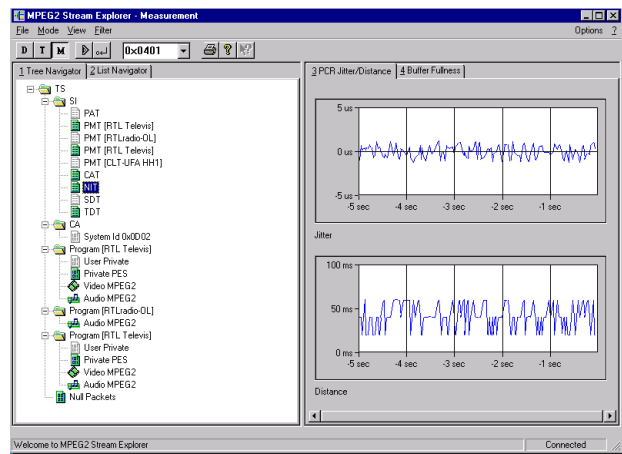

Fig. 3: Realtime measurement of PCR jitter and PCR spacings
- PCR jitter (Fig. 3)
- Spacing of PCR values in transport stream (Fig. 3)